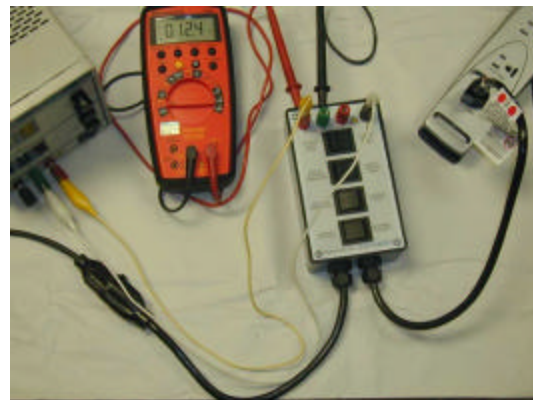

Figure 6 Between Leads (Nonisolated)
13. See Figure 6 and Table 6 for a Test Setup synopsis. This section is based on NFPA 99 Fig. 10.2.13.5.4.1, see below.